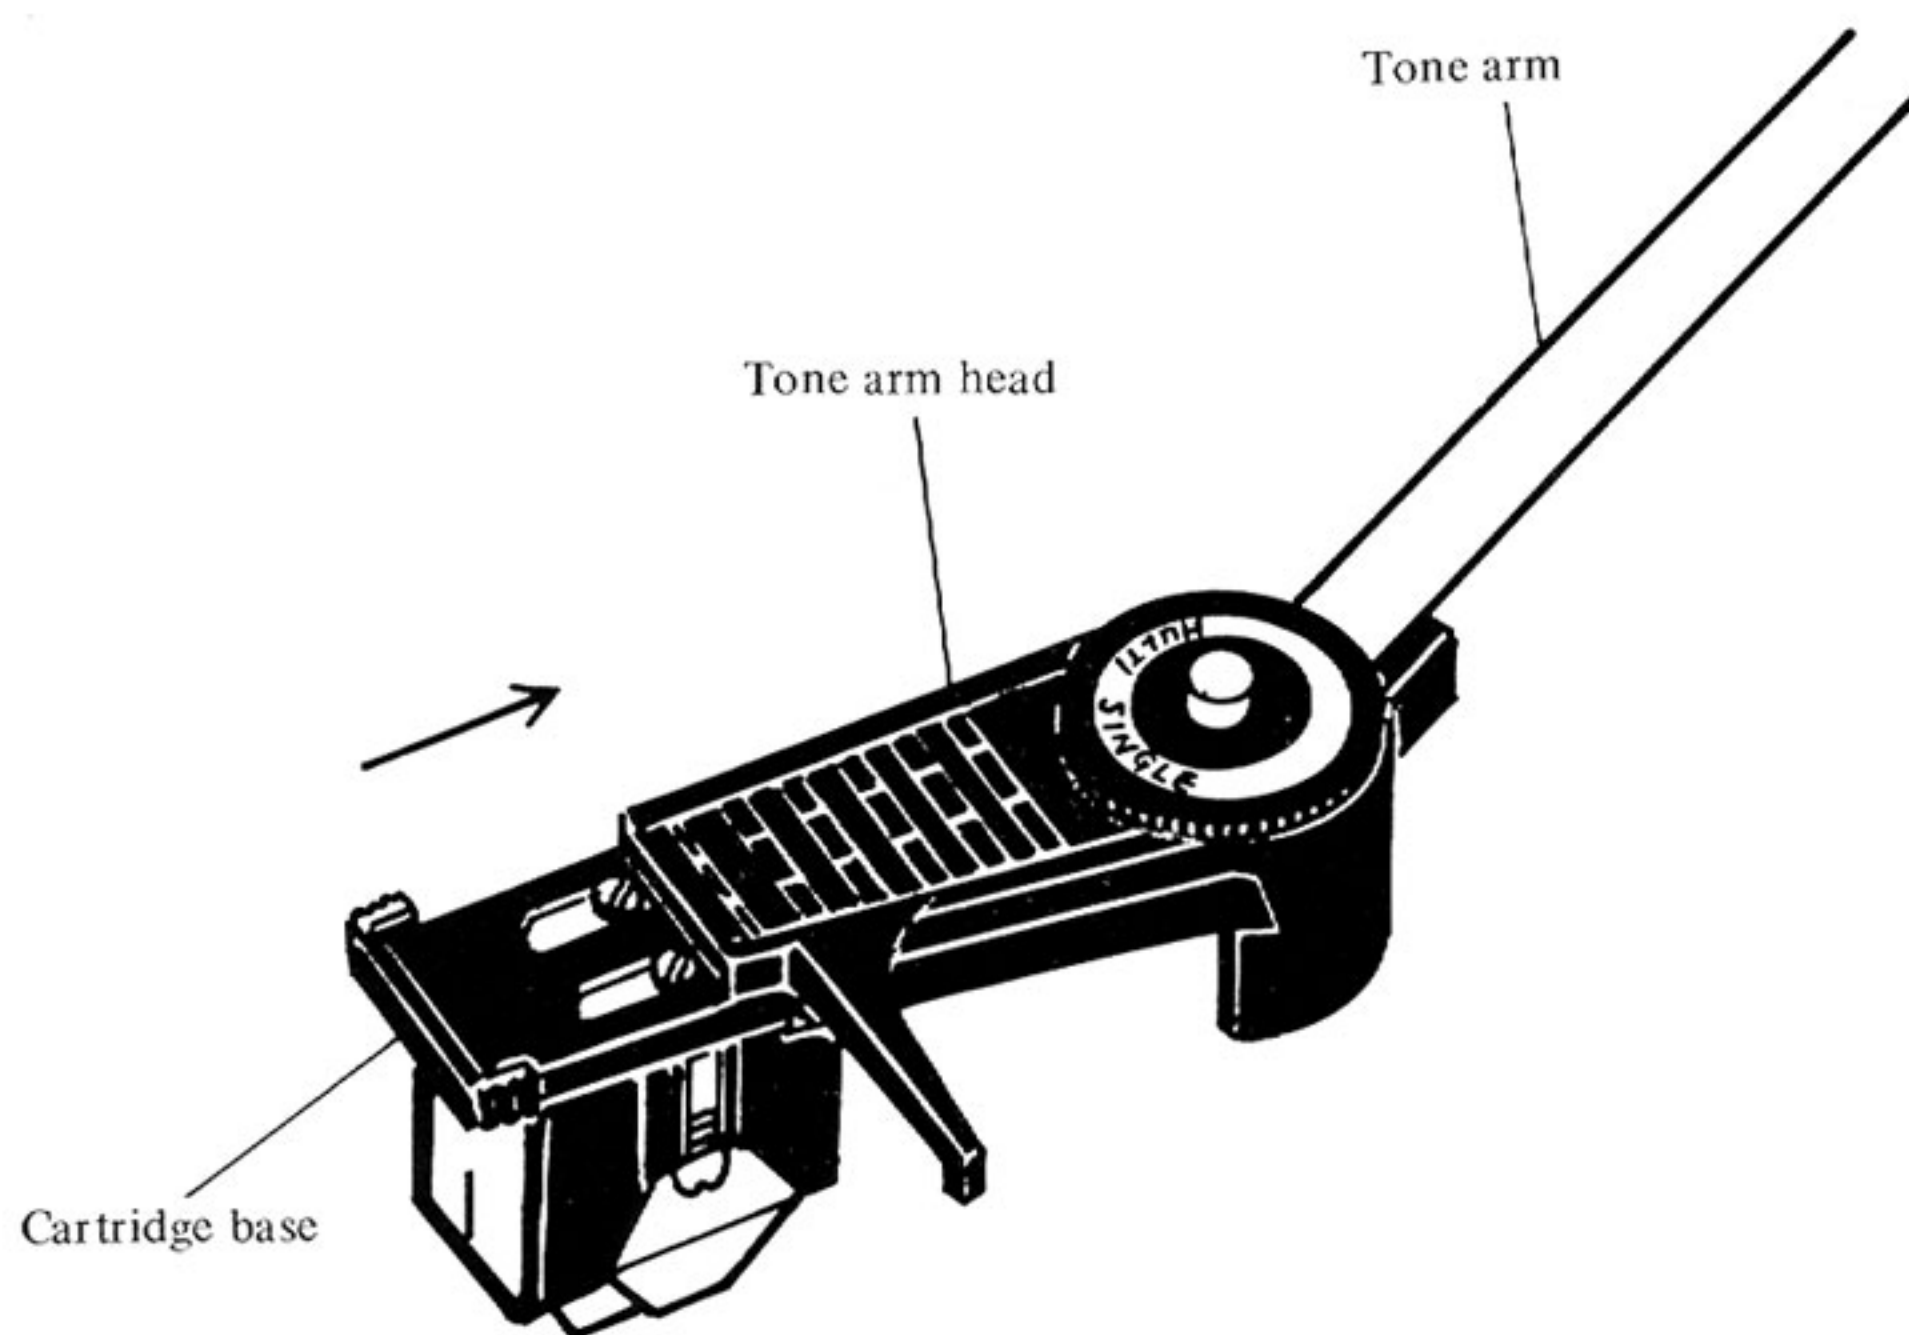

Fig. 3
2. Attach the cartridge to the cartridge base, and then plug it in the tone arm head by forcing it in the direction of the arrow. (Fig. 3)